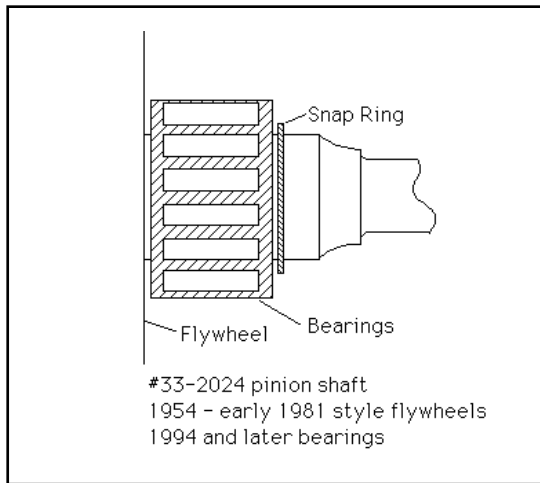

Figure 7
1. 1954 to early 1981 big twin or S&S® SE or L style flywheels and 33-2024 - No thrust washers are normally used. Typical bearing arrangement - bearings against flywheel and snap ring. **See Figure 7.**